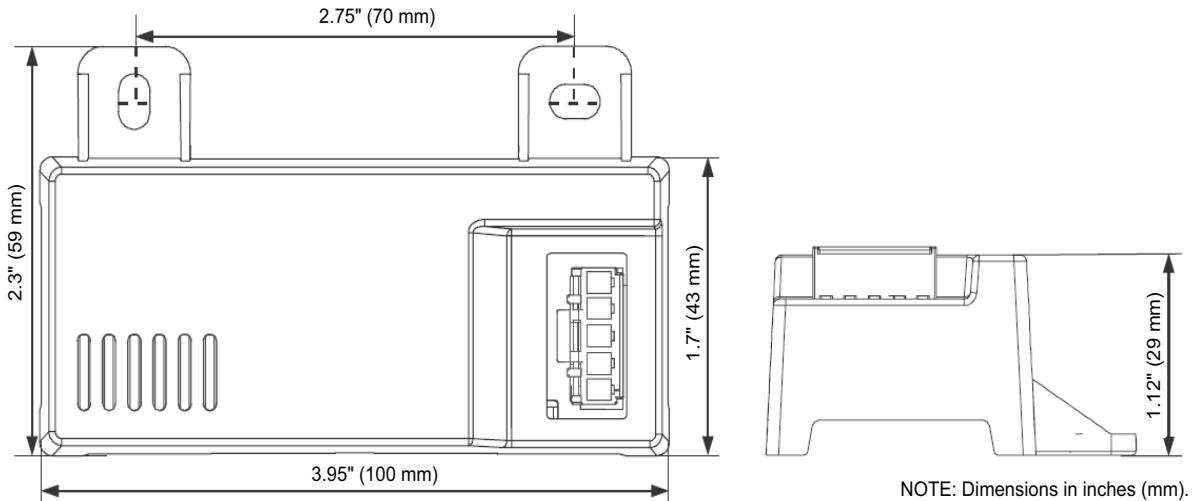
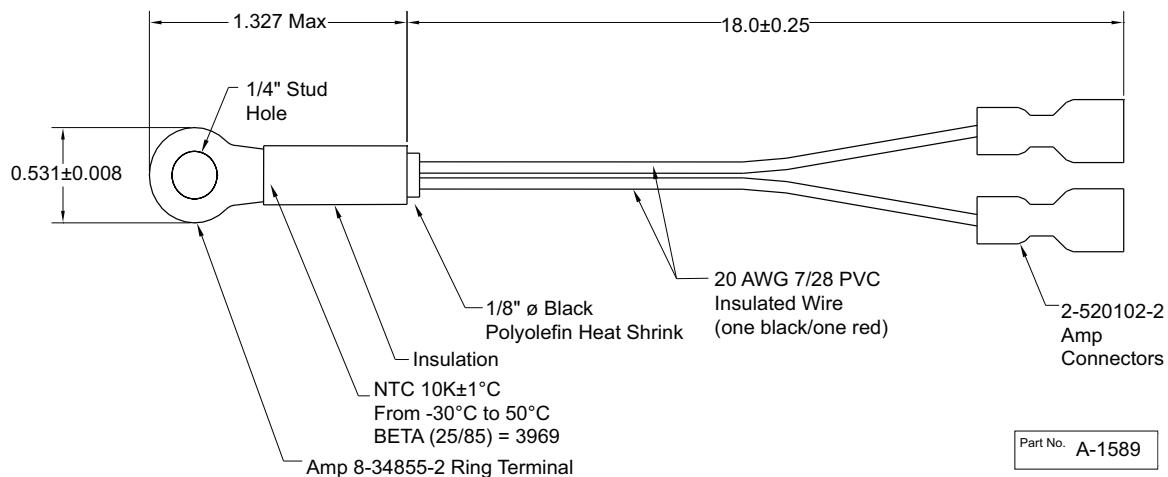
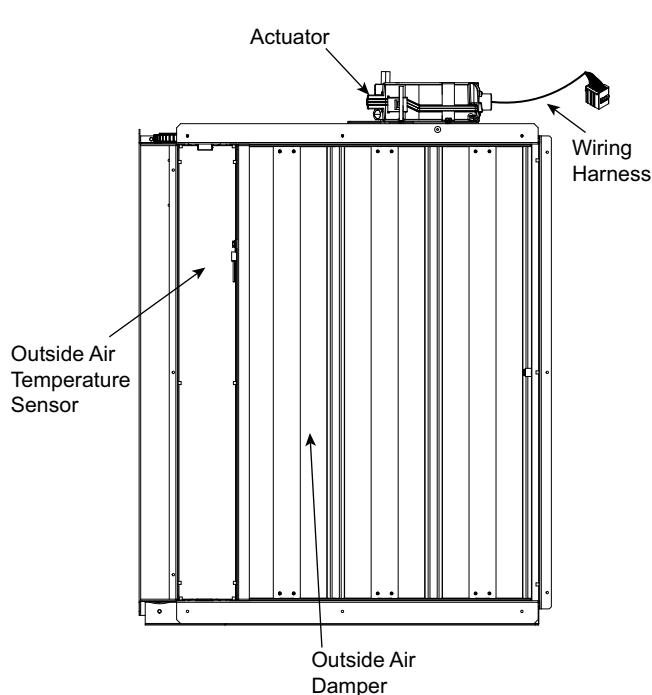

Fig. 84 — HH57LW001 Dimensional, Connection and Switching Information
Fig. 85 — HH79NZ039 Dry Bulb and Mixed Air Sensor Wiring
Fig. 86 — EconomizerONE Component Locations (CRECOMZR108A00 Shown)
When using the HH57LW001 enthalpy sensor (see Fig. 84) for outside air changeover, the existing HH79NZ039 dry bulb sensor (see Fig. 85) must be removed. The enthalpy sensor will be mounted in the same location as the dry bulb sensor (see Fig. 86). When the enthalpy sensor's OA (Outside Air) temperature, enthalpy, and dew point are below their respective setpoints, the outside air can be used for free cooling. When any of these are above the setpoint, free cooling will not be available. Enthalpy setpoints are configurable and create an enthalpy boundary according to the user's input. For additional details, see Fig. 87-88 and Table 35.
The optional enthalpy control sensor (P/N: HH57LW001) communicates with the POL224 economizer controller using the 5-wire harness, 48TC005213. The HH57LW001 sensor can be used as a single outside air enthalpy, a differential return enthalpy, or a differential return temperature sensor. Refer to the base unit control wiring diagrams found earlier in this book to wire the HH57LW001 enthalpy sensor for each option. Use Fig. 84 and Table 37 on page 74 to locate the wiring terminals for each enthalpy control sensor.
Economizers are shipped standard with an HH79NZ039 outside air dry bulb sensor (see Fig. 85). System default setting (high temp limit) is 63°F (17°C) and has a range of 48°F to 80°F (9°C to 27°C). Sensor is factory installed on economizer.
If installing the optional HH57LW001 enthalpy sensor, the HH79NZ039 dry bulb outside air sensor must first be removed. Wire sensor to harness 48TC005213 and the (5) wires from the harness to the EconomizerONE harness in the return air chamber. Harness 48TC005213 has a 5-pin plug that connects directly to the HH57LW001 enthalpy sensor. Refer to the base unit control wiring diagrams earlier in this book for wiring connections. Refer to Fig. 84 and Table 37.